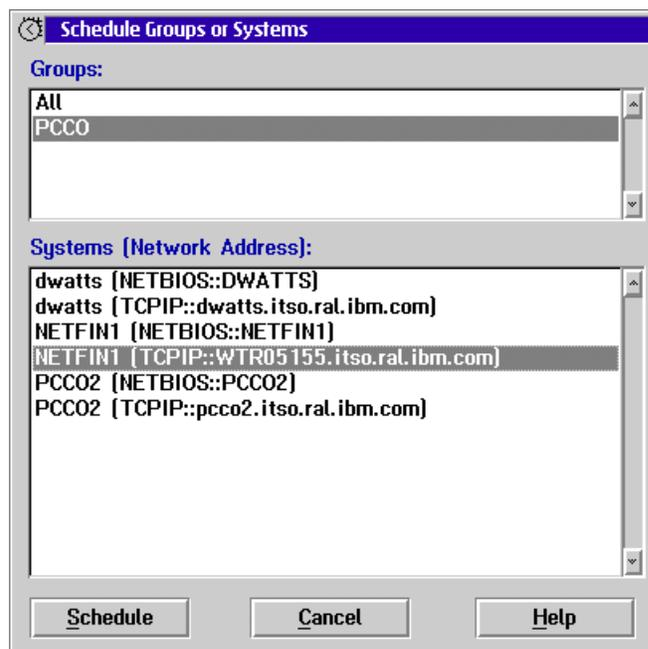
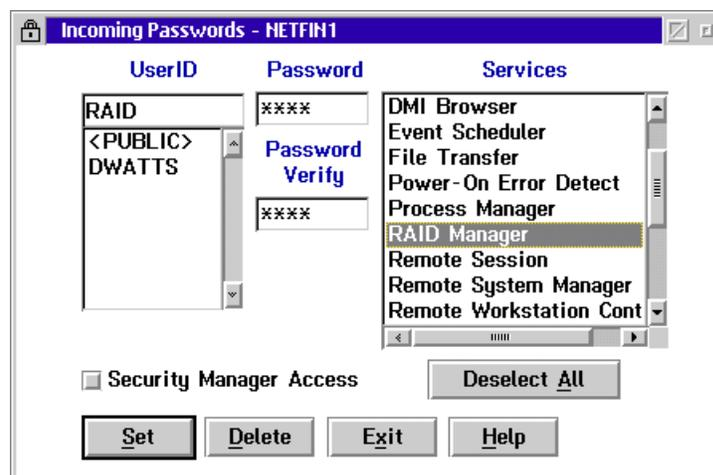

Figure 38. Selecting the System to Schedule
Figure 42. Defining Incoming Passwords
We clicked on **Systems** and Figure 38 appears.
If you are configuring the schedule on a remote system (that is, not the server you selected in Figure 38 on page 58) you should also click on **Retry for offline systems** to ensure network failures do not impact your RAID scrub schedule.
1. Double-click on **Edit/Display Incoming Passwords**. Figure 42 appears.
2. Set up a userid and password to allow access to the RAID Manager as shown in Figure 42. This is the service that performs the RAID scrub. Click on **Set**.
- Specify the network address of the server. Ensure the address you type in matches the network address of the server you selected in Figure 38 on page 58. The userid and password you type in must match those in Figure 42 on page 60.